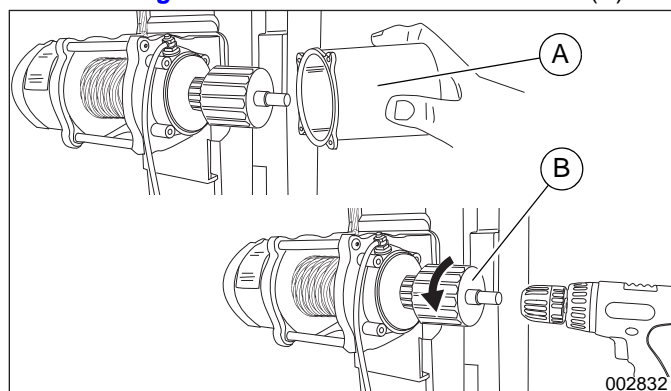

Figure 3-61. Manually Lowering the Mast
1. See Figure 3-61. Remove the motor cover (A).